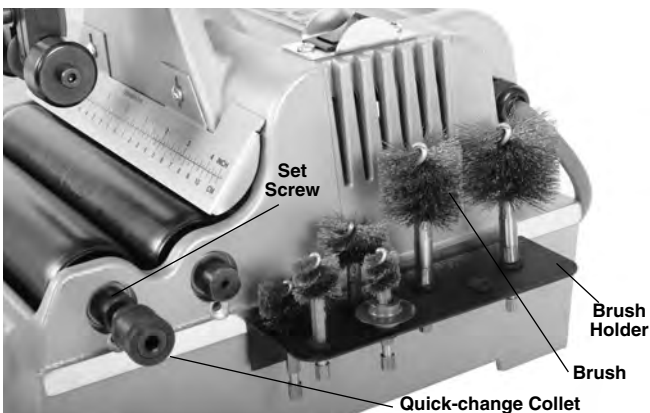

Figure 4 – Collet Installed
2. Attach the quick-change collet (Figure 4) to the front roller shaft extending from machine housing using the setscrew. Securely tighten with 1/4" hex key.